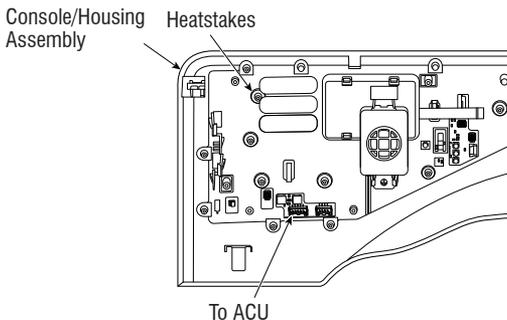

Figure 4 - Human-Machine Interface (HMI), Console/Housing Assemblies
5. Visually check that all HMI connectors are inserted all the way into the HMI. See Figure 4, below.